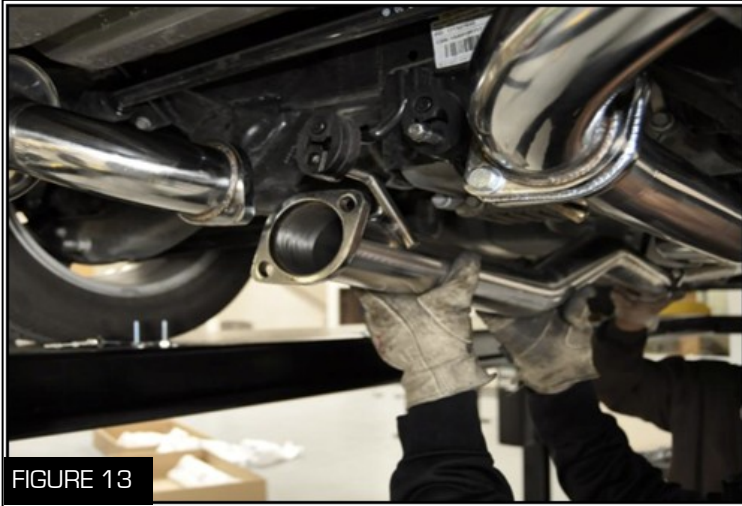

FIGURE 13
4. Attach both mufflers to the metal hangers at the rear of the vehicle (Figure 13)
5. Spray the mid pipe rubber insulators with a lubricant and slide the metal hangers for both mid pipes into the insulators (Figure 13)
6. Bolt the mid pipes to the X-pipe then bolt the other ends to the mufflers with the supplied nuts, bolts, and gaskets using both 16 and 17 mm socket wrenches (Figure 13)